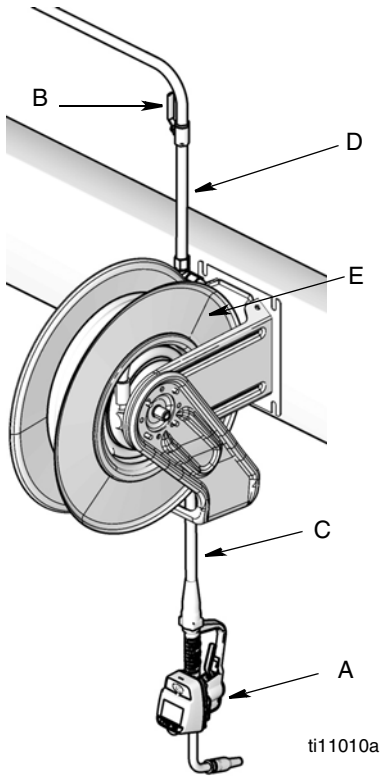

FIG. 13
Typical Installations (FIG. 13)
The typical installation shown in FIG. 13 is only a guide. It is not a complete system design. Contact your Graco distributor for assistance in designing a system to suit your needs.
2. Close the shut-off valve (B, FIG. 13).
1. Close the fluid shut-off valve (B, FIG. 13, page 12) at each dispense position.
4. Slowly open the shut-off valve (B) at the dispense position. Flush out a sufficient amount of oil to ensure that the entire system is clean; then close the valve.